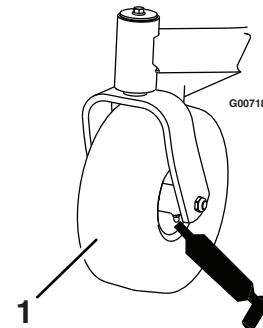
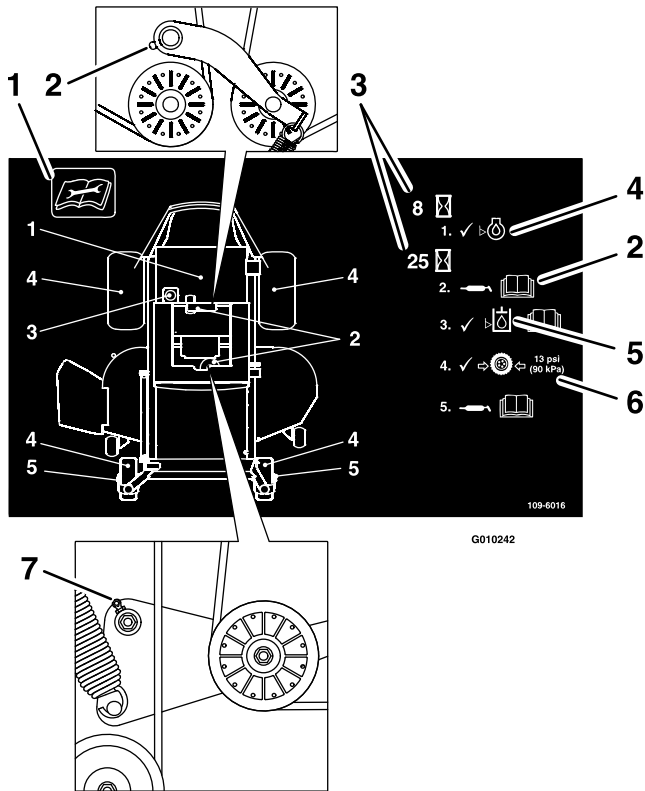

Figure 17
Figure 18
Grease the front caster wheels (Figure 17).
3. Clean the grease fittings (Figure 17 and Figure 18) with a rag. Make sure to scrape any paint off of the front of the fitting(s).
4. Connect a grease gun to each fitting (Figure 17 and Figure 18). Pump grease into the fittings until grease begins to ooze out of the bearings.